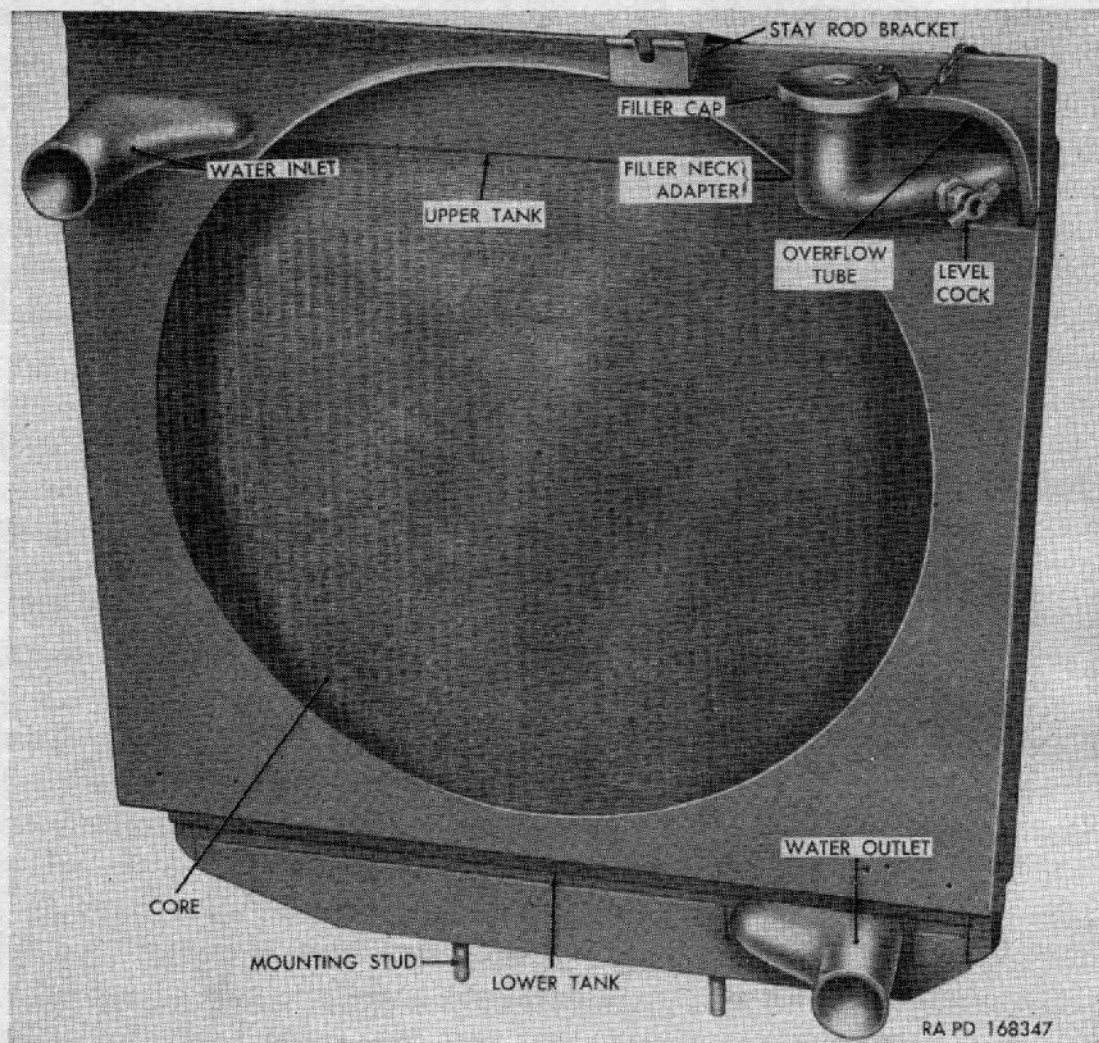
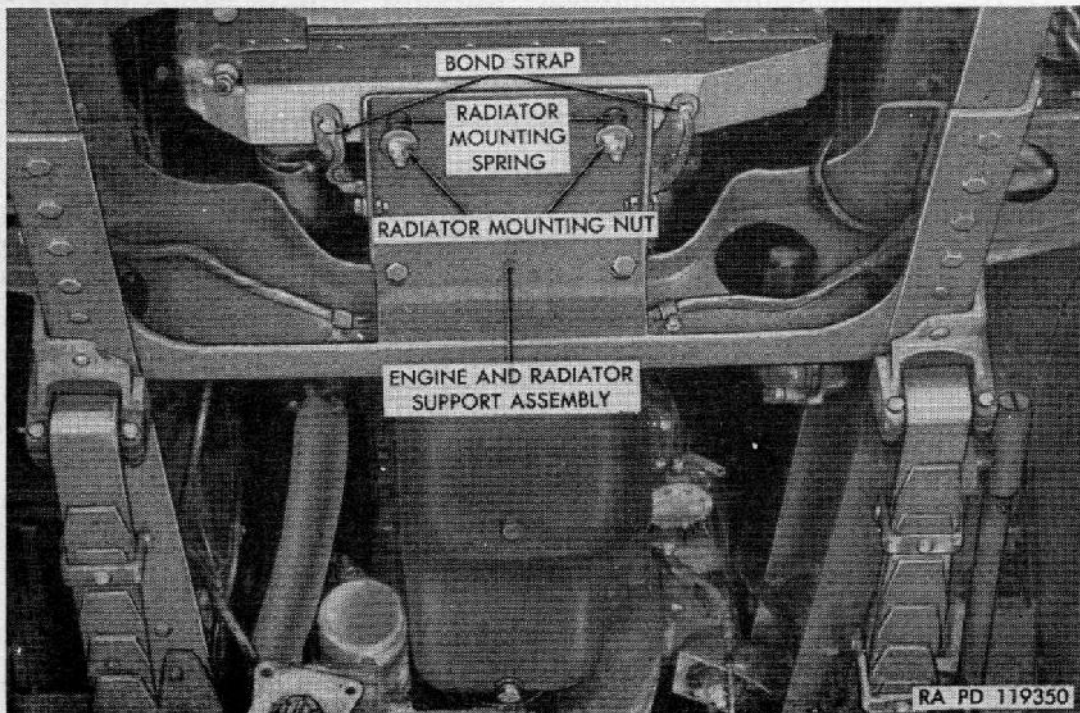
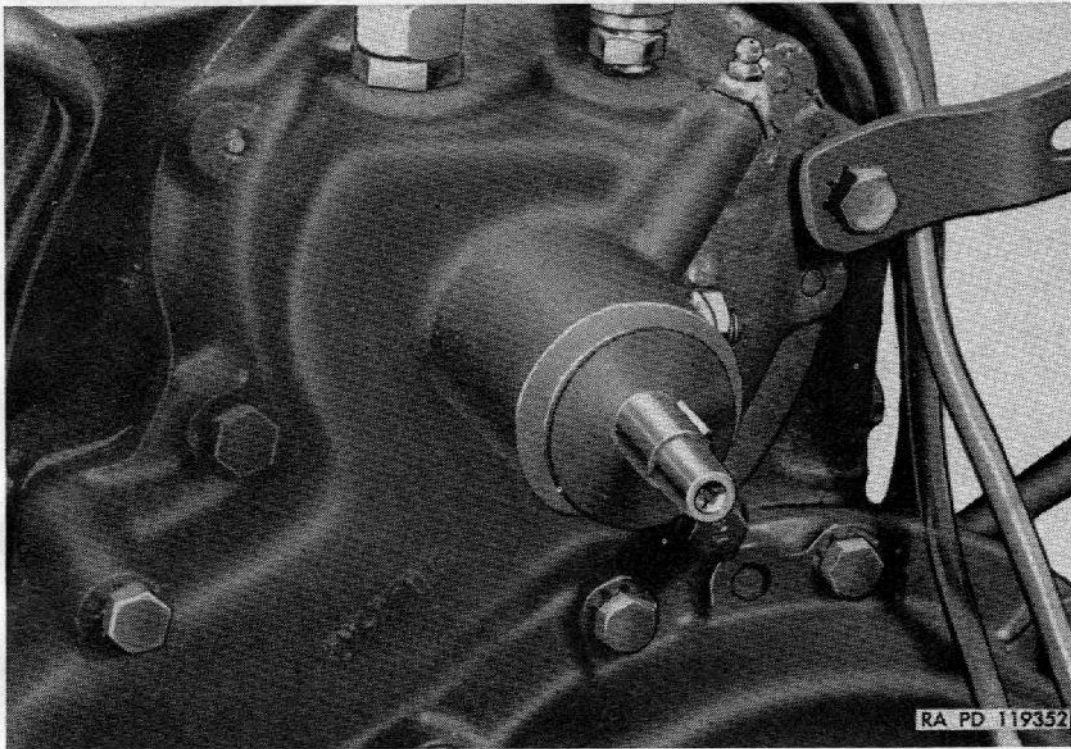
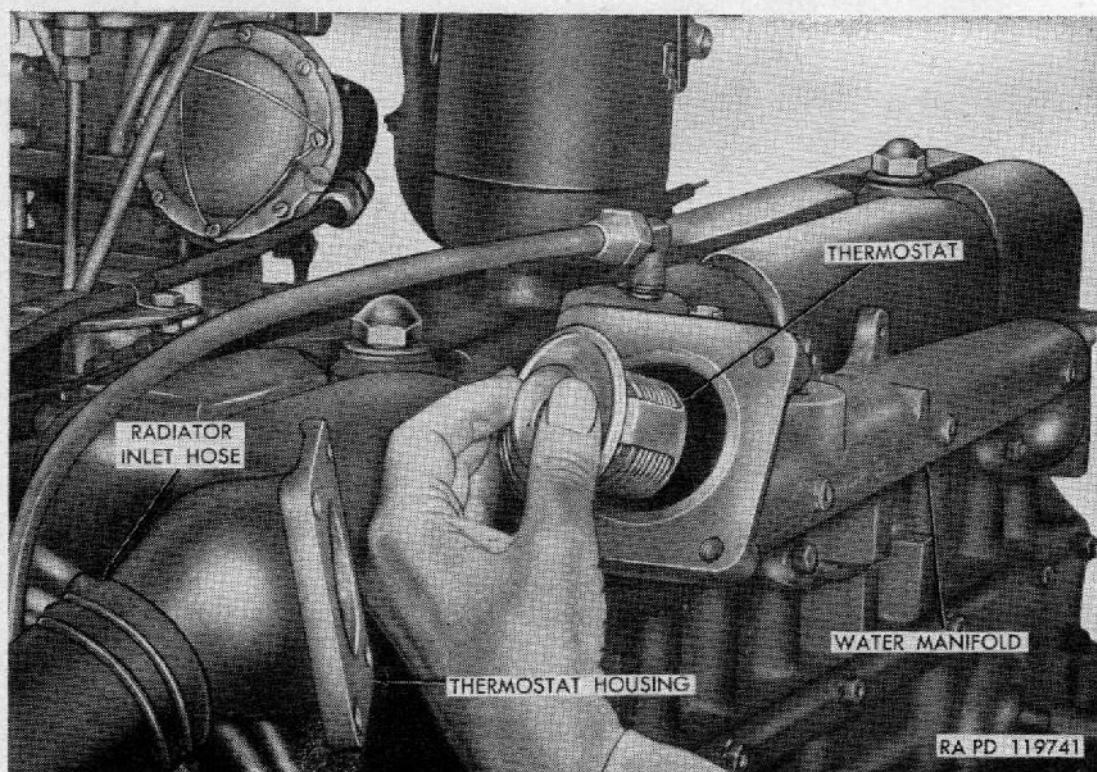

Figure 63. Radiator—rear view.
Figure 64. Radiator mounting.
Figure 66. Water pump mounting.
Figure 68. Removing thermostat.
a. GENERAL. The sealed-type cooling system consists of the following: radiator, fan, drive belts, thermostat, water pump, temperature gage, pressure-type filler cap, thermostat bypass line, and the lines, hoses, and fittings connecting the radiator to the engine and water pump. Water is drawn from bottom of radiator by action of water pump and is circulated through engine and returned through upper connection to radiator. Air, drawn through radiator core by fan and by motion of truck, cools water to maintain correct engine operating temperature. To drain cooling system, open coolant-level cock (fig. 63), remove radiator cap, open radiator drain cock, and drain cock on right side of engine toward rear.
b. RADIATOR. The radiator consists of a fin-and-tube type core, upper and lower tanks, drain cock, coolant-level cock, pressure-type filler cap, and overflow tube (fig. 63). Radiator is mounted in a vertical position at front of engine and is removed with the power plant (par. 97). Radiator may be replaced while engine is in the truck.
d. WATER PUMP. A centrifugal-type water pump is mounted at the front of the engine (fig. 66). The water pump forces the coolant through water passages in engine, radiator, and connections.
e. THERMOSTAT. A bellows-type thermostat (fig. 68), mounted in end of water manifold, contains a restriction valve, sensitive to temperature, which opens gradually as engine temperature increases. The valve in the thermostat starts to open at approximately 160° F. and is fully opened at approximately 185° F. When the temperature of coolant in engine is below 160° F., the valve remains closed, eliminating flow of coolant through radiator. A bypass around thermostat permits circulation of coolant through the engine water passages until normal operating temperature is reached. The thermostat then is open and permits full circulation of coolant.
(fig. 63)
Caution: Do not pour cold water into cooling system when engine temperature is above 200° F. Also cold water poured into cooling system, regardless of engine temperature, will close thermostat and not allow engine water jackets and passages to completely fill. Whenever filling system with cold water, always run engine until normal operating temperature is reached (thermostat opens), then add water until coolant reaches level cock (fig. 63).
- (6) *Fill system.* Close radiator and cylinder-block drain cocks; then fill system to suit climatic conditions as follows: if above 32° F., almost fill the system with clean fresh water (soft if possible) and a corrosion inhibitor; then fill with water until coolant is evident at level cock (fig. 63). If there is a possibility that climate below 32° F. will be encountered, fill system about one-third full; add antifreeze enough for the lowest expected temperature (par 49); then fill until coolant is evident at level cock. Close coolant-level cock, install radiator cap, start engine, and run it at a fast idle until temperature gage shows normal operating temperature; then stop engine and check coolant level, adding water as necessary.
- (7) *Air suction and exhaust-gas leakage.* Air circulating the cooling system, as well as exhaust gas leaking into system, causes rapid corrosion and rust formation which will eventually clog system and cause overheating and loss of coolant. The air may be drawn into system due to low liquid level in radiator, leaky water pump, or loose fitting connections. Exhaust gas may be blown into cooling system past cylinder head gasket or through cracks in cylinder head and block.
- (a) *Air-suction test.* Bring level of coolant to level cock (fig. 63) of radiator. Drain out three pints of coolant to prevent overflow during test. Be sure radiator cap is in good condition and will make an air-tight seal. Attach a length of rubber tubing to end of overflow tube. This connection must be air tight. Run engine until temperature gage stops rising and remains stationary. Without changing engine speed, put end of rubber tube in bottle of water. Be sure there are no kinks or sharp bends in tube to restrict air flow. Watch for bubbles in water. Bubbles indicate that air is entering the cooling system. Correct condition by tightening cylinder-head bolts (par. 91) (fig. 42), water-pump mounting bolts (par. 123) (fig. 66), hose clamps and all fittings. Replace all hose if cracked, swollen, or deteriorated in any way.
- (b) *Gas leakage test.* Start test with engine cold. Remove thermostat (par. 124) (fig. 68), reinstall thermostat housing without thermostat or water outlet hose, and add water to level of housing outlet. Start engine, accelerate several times and watch for bubbles in housing. Appearance of
- (1) *Remove brush guard.* Refer to paragraph 97.
- (2) *Remove radiator.* Drain cooling system (*a* above). Loosen clamp on radiator inlet and outlet hose at radiator (fig. 63) and pull both hoses free. Disconnect radiator-stay rod from bracket at cylinder head. Disconnect two bond straps (fig. 64) at bottom of radiator, one on each side. Remove
c. **INSTALLATION** (fig. 64).
- (1) *Install radiator.* Place radiator on radiator-and-engine support with mounting studs (fig. 63) through holes in support. Install springs, washers, and nuts. Tighten nuts evenly and securely but do not tighten enough to completely compress springs. Connect two bond straps at bottom of radiator, one on each side. Connect radiator-stay rod to bracket on top of cylinder head. Connect inlet and outlet hose at radiator. Fill cooling system.
- (2) *Install brush guard.* Refer to paragraph 97.
- (1) *Removal.* Tilt brush guard (par. 97). Drain cooling system (par. 121). Loosen clamp on radiator inlet hose at top of radiator and pull hose free. Disconnect radiator-stay rod from bracket on cylinder head and tilt radiator forward. Flexibility of the radiator mounting springs will allow radiator to tilt forward approximately 6 to 8 inches. Remove six cap screws and washers holding fan to water-pump-drive-pulley hub, remove fan, and fan-to-pulley adapter.
- (2) *Installation.* Position fan adapter on fan-and-water-pump-pulley hub and place fan on adapter with straight edge of blades toward radiator and curved edges toward engine. Install six cap screws (fan-and-water-pump-pulley hub) and tighten securely. Push radiator into position and connect radiator-stay rod to bracket at cylinder head. Install radiator-inlet hose and tighten clamp. Close drain cocks and fill cooling system (par. 121) to level cock (fig. 63). Push brush guard into position and tighten (par. 97).
(fig. 66)
bearing retainers. Disconnect radiator-outlet hose at water pump. Remove five water-pump-to-cylinder-block cap screws and lock washers (fig. 66) and remove pump. Discard gasket.
c. **INSTALLATION.** Install two bearing retainers with concave surfaces facing each other and insert key in shaft. Place water pump in position on cylinder block with new gasket. Be sure pump is in correct position to align with radiator outlet hose. Install five water-pump-to-cylinder-block cap screws and lock washers (fig. 66). Install key and install fan-and-water-pump pulley. Install special washer and safety nut, and tighten. Install drive belts (par. 122). Connect radiator outlet hose at water pump. Connect thermostat-bypass line and air-compressor-water inlet line to top of water pump housing. Place fan-to-pulley adapter in place on pulley hub and install fan (par. 122).
a. **REMOVAL.** Open coolant-level cock (fig. 63), remove radiator cap, and open radiator-drain cock. Loosen both radiator-inlet-hose clamps and remove hose. Remove four cap screws and lock washers holding thermostat housing to water manifold. Remove housing and discard gasket. Pull thermostat out from end of water manifold (fig. 68).
b. **INSTALLATION.** Place thermostat in position in end of water manifold (fig. 68). Position thermostat housing, with new gasket, on water manifold and install four lock washers and cap screws. Install radiator inlet hose and tighten clamps. Close radiator drain cock and fill radiator. Close coolant-lever cock.